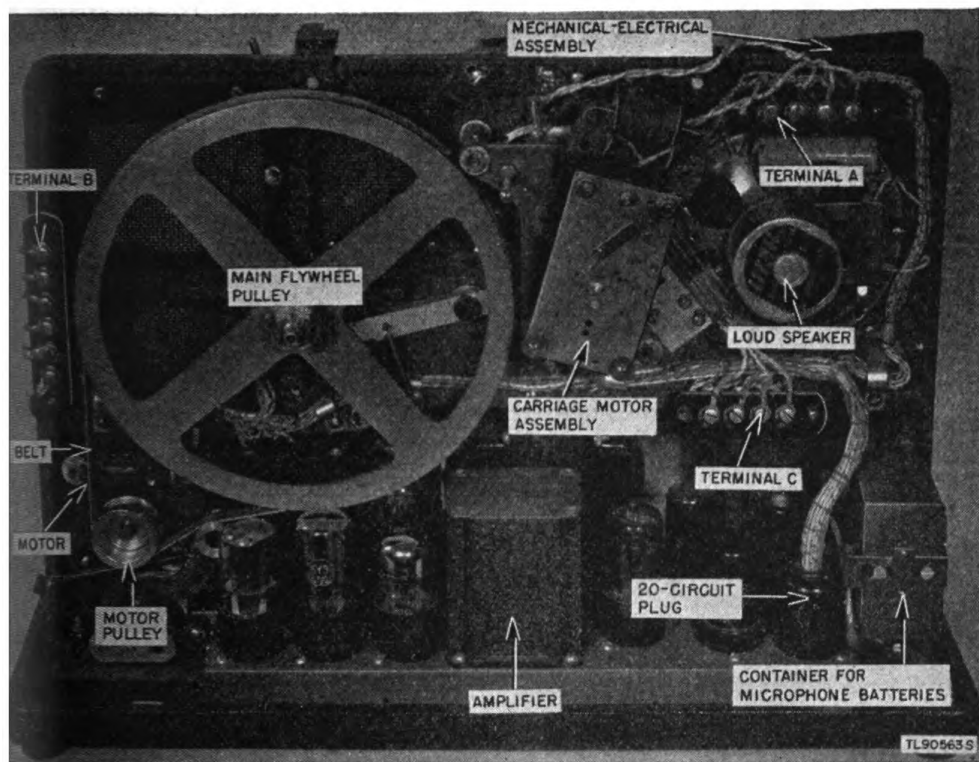

Figure 3. Sound Recording Set AN/UNQ-1, rear view.
(1) *Rear of Sound Recording Set AN/UNQ-1* (fig. 3). The rear consists of two major assemblies, the mechanical-electrical, and the amplifier. On the mechanical-electrical assembly are the loudspeaker, carriage-motor assembly (trackage motor), container for microphone batteries, a 1/75-horsepower shaded-pole motor, main flywheel pulley, belt, and the necessary wiring, switches, terminal strips, and hardware. On the amplifier assembly will be found all the tubes, transformers, capacitors, resistors, chokes, and wiring associated with the amplifier. The receptacle for the 20- or 11-pin male plug (par. 6b) is located on the right side of the amplifier chassis.
*b.* DIFFERENCES IN SOUND RECORDING SET AN/UNQ-1. (1) *Main frame.* On sets bearing serial numbers 812 and 815 to 1350 inclusive (see note below), a 20-circuit plug (fig. 3) replaces the 11-circuit plug used on previous equipments. The wiring color code is also changed.